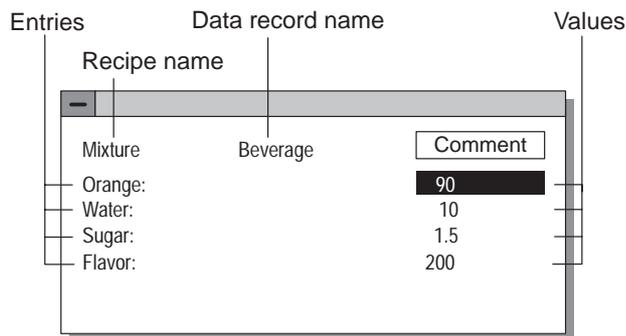

Figure 8-4 Data record editing window
- Comment**                    Enter a comment in respect of the data record to be edited. The comment entered is only accepted when the data record is stored on the data medium. It is not accepted if the data record is saved a second time. In this case, the comment must be entered in the Edit window (refer to Figure 8-4 on Page 8-10).
6	Enter the respective values in the edit window (Figure 8-4). Confirm each entry by pressing:
5	Modify the values in the edit window (Figure 8-4). Confirm the change by pressing:
The entries of the selected data record are listed in the Edit window (Figure 8-4). Each line contains the configured name on the left and the editable value of the entry on the right.